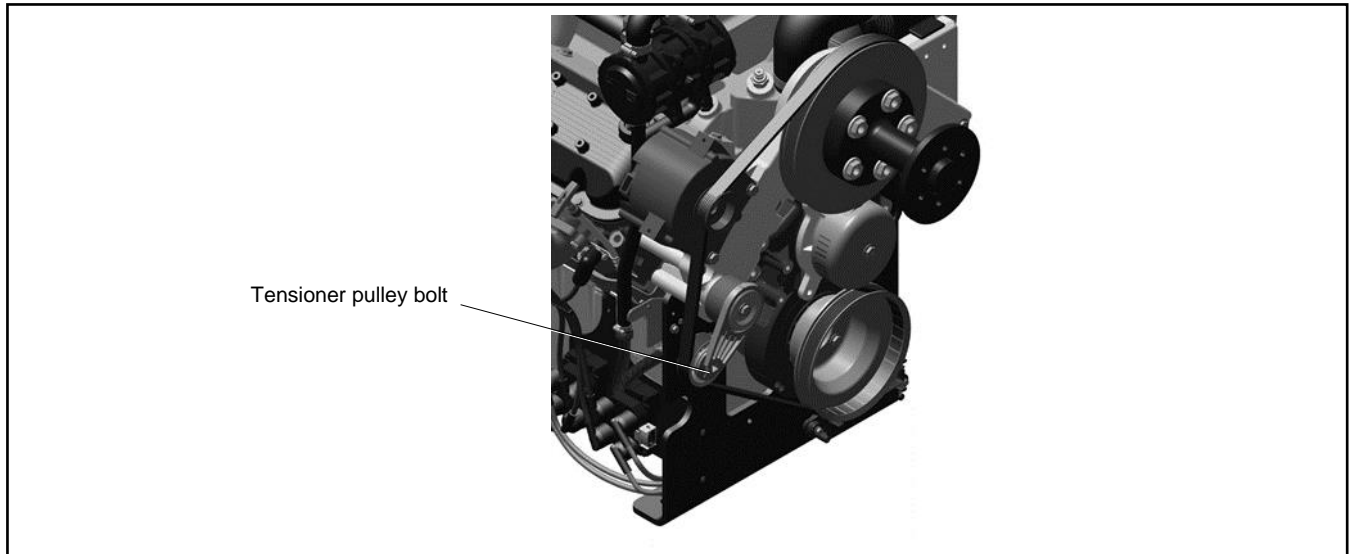

Figure 27 Tensioner Location
1. Use a socket wrench to turn the tensioner pulley clockwise against the spring force. See Figure 27.